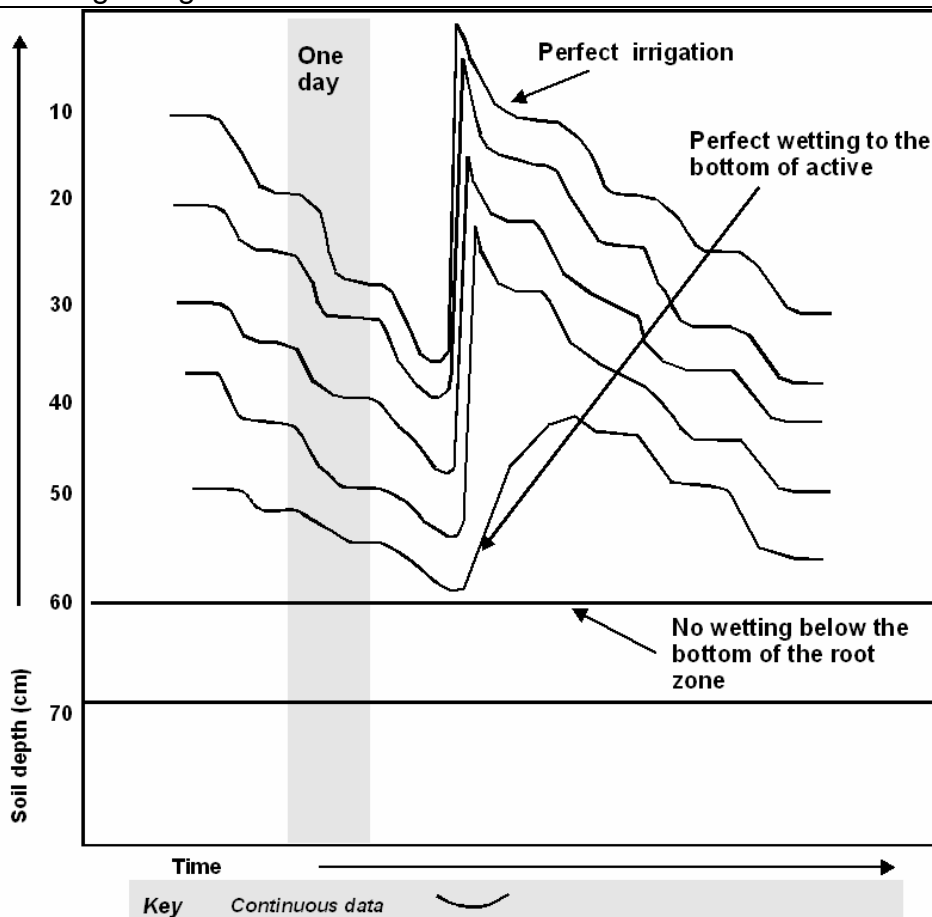
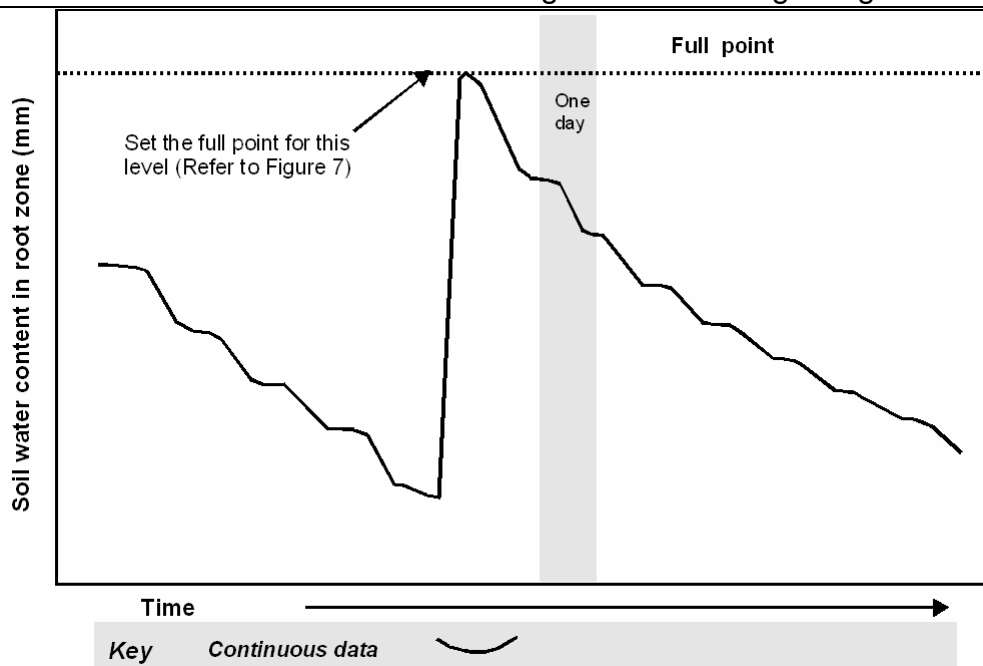

Figure 22—Depth of irrigation balances soil moisture extraction
Figure 23—Full point in summed graph
Figure 22 shows the same site as Figures 20 and 21. Here the depth of irrigation replaces the amount of soil water extraction at the bottom of the root zone at the same magnitude as it was removed by the plant.
If you manage to reproduce, on your *Irrigation Management Chart*, the trends shown on Figure 22, then you have found the depth of irrigation that constitutes the Full Point.
Figure 23 shows in a summed form the same data as in Figure 22. The separate level data are showing an event that can be described as a good Full Point event. The line at the top of the summed irrigation peak indicates the Full Point.
2. Ensure that soil moisture content remains between these two points (refer to Figure 22).